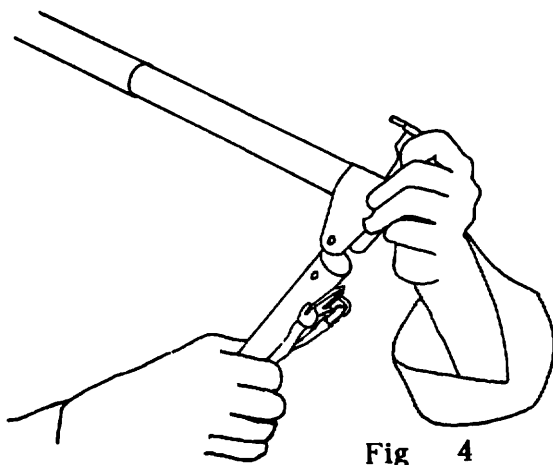

Fig 4
4) Attach the free end of the base tube to the downtube using the wing nut and safety provided.(fig 4 and 5)